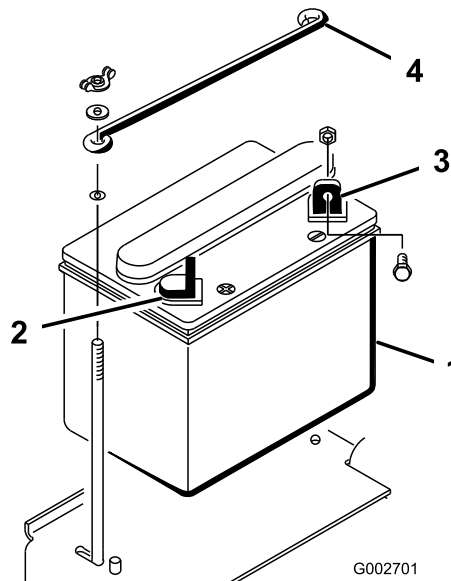

Figure 3
Remove the (2) wing nuts and washers securing top battery hold down to side battery hold downs (Figure 3). Remove top battery hold and remove battery.